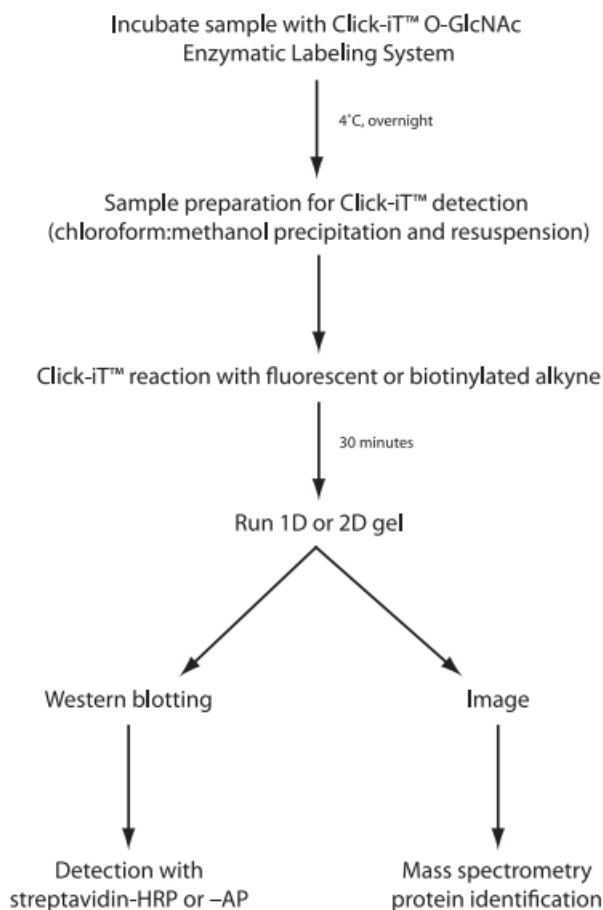

Figure 1 Workflow diagram of the Click-iT™ O-GlcNAc enzymatic labeling and detection scheme
- The Click-iT™ O-GlcNAc Enzymatic Labeling System provides a highly sensitive and efficient method for the *in vitro* modification of O-GlcNAc modified proteins (figure 1).